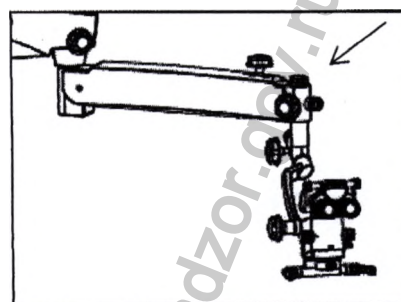

Fig. 18.1
5. Lightning is adjusted with the knob, figure 18.1. To adjust desirable level of lightning rotates the knob clockwise of counter clockwise.